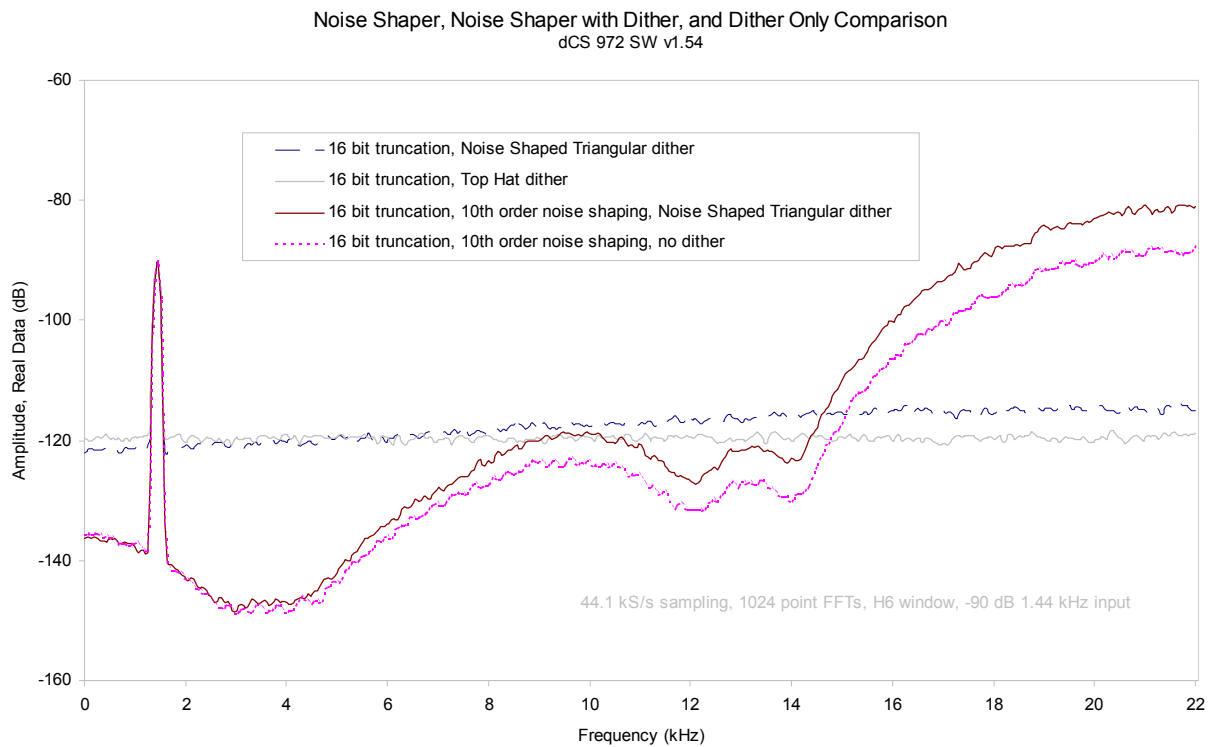
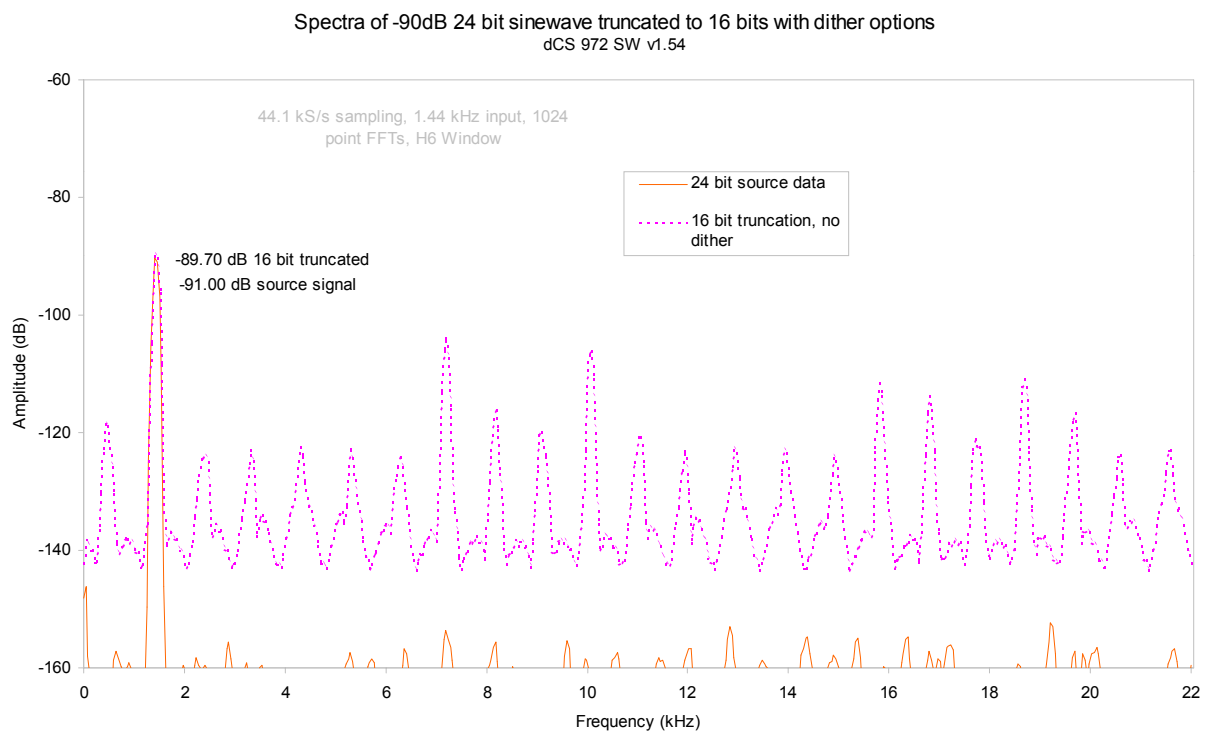

Figure 48 – Noise Shaping and Dither Spectra
Figure 49 – Truncation Only Spectra
**Figure 48** gives the spectra of 16 bit truncated 44.1 kS/s signals with a -90dB0 sine present, for two dither only signals (Top Hat, Noise Shaped Triangular), a 10th order noise shaped32 signal, and a 10th order noise shaped signal with added Noise Shaped Triangular dither. The equivalent simply truncated spectrum is shown in **Figure 49**, separately because it is so revolting. In it, we can see that at the signal level shown (-90dB0) error power from the quantising/truncation is beginning to pile into the fundamental, which is showing an amplitude error of +1.3dB. This would show up on a conventional linearity plot, although the sign of the error could be either way.